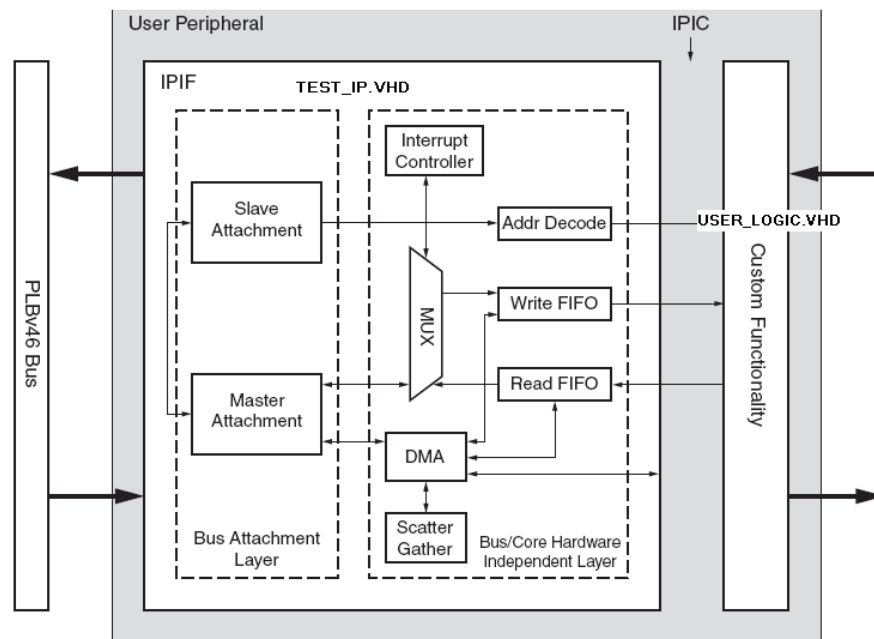

**Figure 5-2: Directory Structure Generated by the CIP Wizard**
A review of the directory structure and files that were created by the wizard reveals where the above-mentioned and other key files reside. See the `pcores` directory in your example project directory, shown in Figure 5-2.
**Note:** The list of files shown in Figure 5-2 is a partial list, and do not represent the full list of directory files.
Let's focus our attention on the two VHDL template files created by the wizard, `test_ip.vhd` and `user_logic.vhd`, shown in Figure 5-2.
Figure 5-3 illustrates the relationship between the block diagram shown in Figure 5-1 and the generated files shown in Figure 5-2.
1. In XPS, select File > Open and navigate to the `pcores\test_ip_v1_00_a\hdl\vhd1` directory. Here you will find the `test_ip.vhd` file and the `user_logic.vhd` file. (See Figure 5-2.)